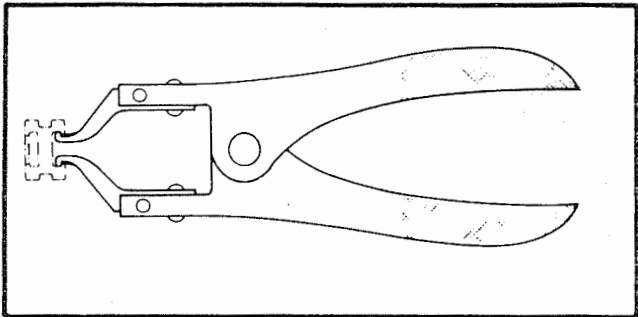

Figure 7-59. Rocker Arm Shaft Spacer Pliers
b. Remove the rocker arm shaft cap and washer, using 1-1/16 inch wrench. Remove the rocker arm shaft spacer using pliers 806553 (figure 7-59). Remove the seal from the spacer.